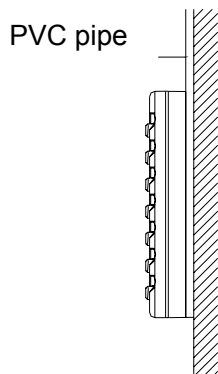
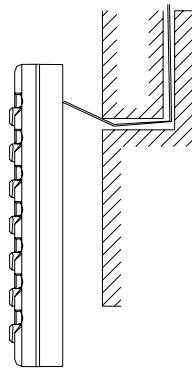

Fig.18
Fig.19
2. If wired controller and indoor communication wire are mounted visibly, 1 # PVC pipe can be used and corresponding grooves should be set in the wall (fig.18). If in hidden, 1 # PVC pipe can be used (as shown in fig.19).